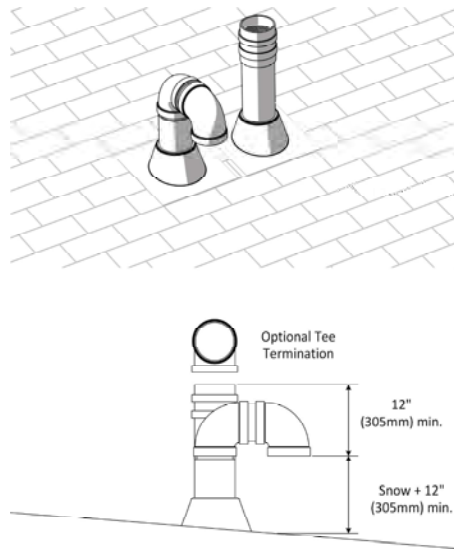

Figure 9: Rooftop vent termination.
- You must maintain at least the minimum separation of exhaust vent termination from unit's intake air as illustrated in figures 9, 10, 14, 16, 18 and 19. Failure to do so can result in a dangerous situation where exhaust gases are pulled in with combustion air. Damage to the unit can result from a failure to maintain these separations. Improper installation will void the warranty.